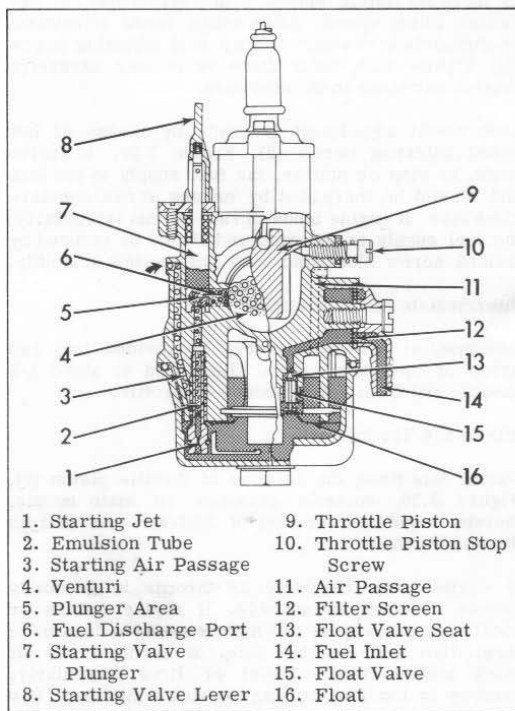
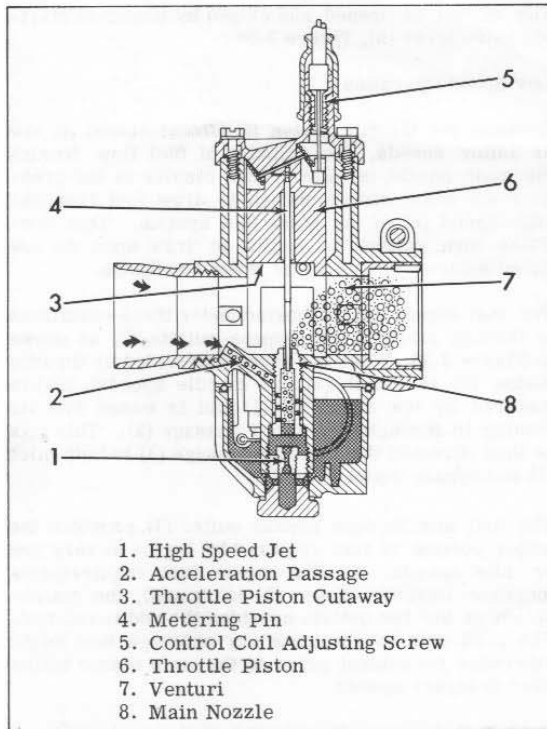

Figure 3.26. Cutaway View of Carburetor
Figure 3.29. Carburetor - Mid and High Speed Operation
Figure 3.26 shows a cutaway view of a carburetor. In place of a choke, a starter system is used. The fuel mix for starting is metered through a jet independent of other operating jets. Fuel metered through starting jet (1) mixes with air from starting air passage (3) and is broken up into tiny particles (vapor) in emulsion tube (2).
The starter is opened and closed by means of starting valve lever (8), Figure 3.26.
The engine operates at medium to high speeds by drawing fuel from main nozzle (8) as shown in Figure 3.29.
Idling speed adjustment is made by means of throttle piston stop screw (10), Figure 3.26, which regulates closing of throttle piston (9). Turn screw clockwise to increase idling speed; counterclockwise to decrease idling speed. After idling speed adjustment is completed, readjust control coil adjusting screw (5), Figure 3.29, until there is neither excessive tension nor slack in throttle wire.
During this time, the cutaway of throttle piston (9), Figure 3.26, controls pressure on main nozzle, thereby regulating amount of fuel-air mix that is drawn into engine.
During this time, fuel-air mixture is through main nozzle (8), Figure 3.29, and is controlled primarily by position metering pin (4) is set in throttle piston (6). The pin is held in place by a clip and can be in any of three positions which determine how far it pulls out of main nozzle as throttle piston is raised.
In high speed operation, with throttle from about 3/4 to fully open, the amount of fuel-air mix is governed by size of high speed jet (1), Figure 3.29, opening which supplies main nozzle (8). The opening is non-adjustable and must be physically changed if needed. For a leaner mixture, a smaller opening is required; for a richer mixture, a larger opening.